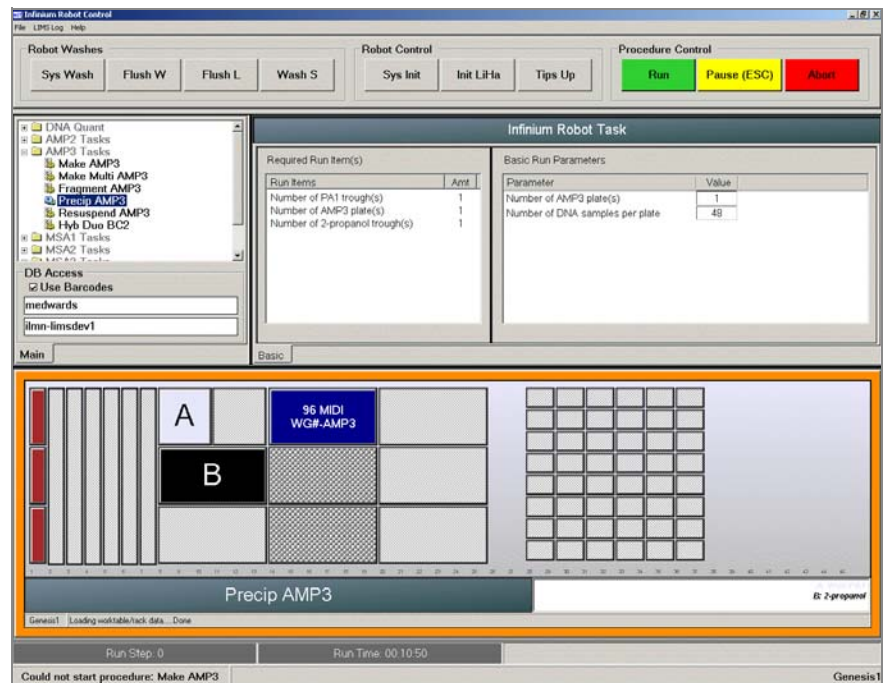

Figure 117 Precip AMP3 Screen
4. Place the AMP3 plate on the robot bed according to the robot bed map (Figure 117). Remove the plate seal.
5. Place a half reservoir in the reservoir frame, according to the robot bed map (Figure 117), and add PA1 as follows:
7. Return the AMP3 plate to the robot bed according to the robot bed map (Figure 117). Remove the plate seal and discard it.